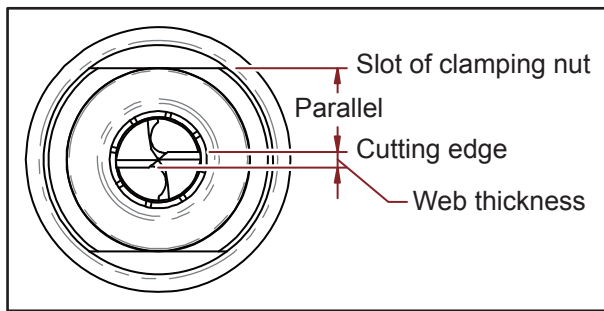

Fig. 7-4
7. After taking out the chuck set, make sure the drill's cutting edge is parallel to the slot of clamping nut. (Fig. 7-4)